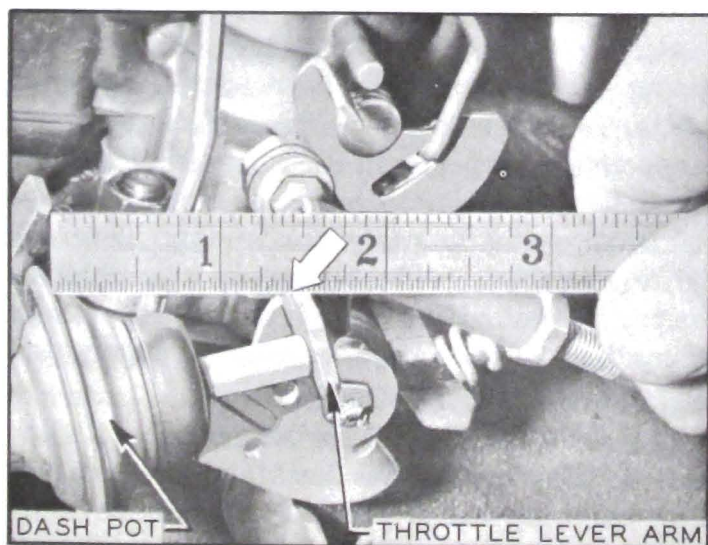

Figure 10-23—Checking Switch Timing on Car—Step One
3. With throttle valve fully closed, measure distance from diaphragm flange of dash pot to near edge of dash pot arm on throttle lever. See figure 10-23.